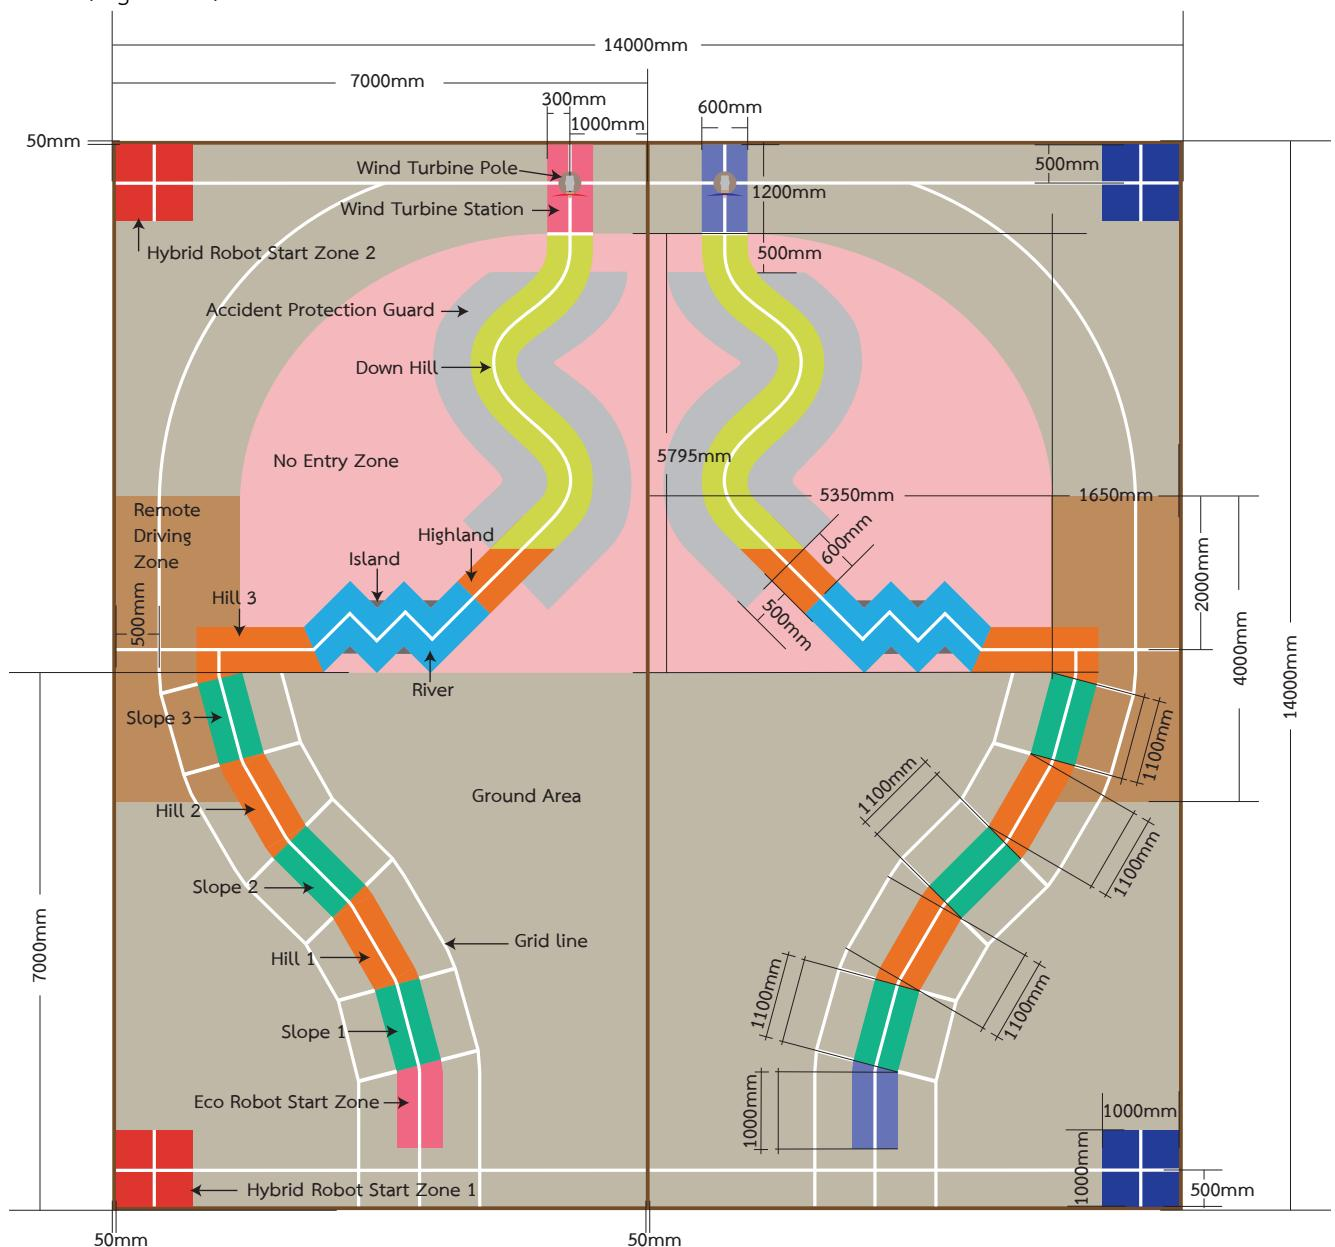

Figure 1: Game Field
- 10.1 The field consists of a Game Area having the dimension of 14,000 mm x 14,000 mm and surrounded by a wooden fence with the height of 100 mm and the thickness of **50 mm**. The game field is divided equally for two teams by a wooden fence with the height of 100 mm and the thickness of **50 mm**. The competing teams are **Red** and **Blue** teams. (Figures 1)